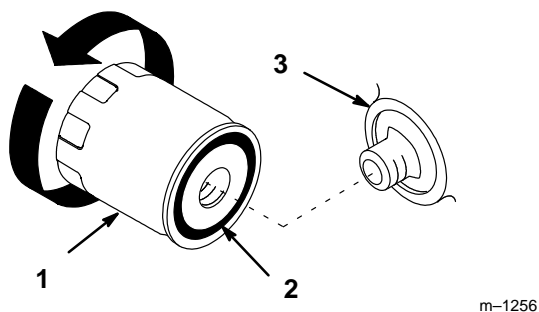

Figure 34
2. Remove the old filter and wipe the filter adapter (Fig. 34) gasket surface.
4. Apply a thin coat of new oil to the rubber gasket on the replacement filter (Fig. 34).
5. Install the replacement oil filter to the filter adapter. Turn the oil filter clockwise until the rubber gasket contacts the filter adapter, then tighten the filter an additional 1/2 turn (Fig. 34).